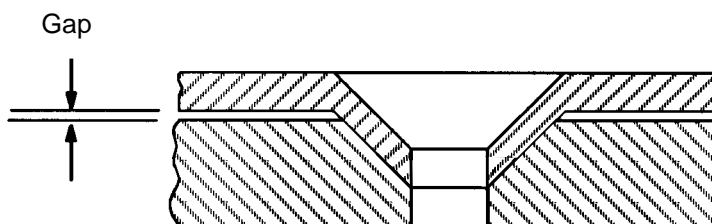

Figure 14 - Sheet Separation
- 10.1 A small gap or sheet separation of 0.001 to 0.010" shall exist between sheets where a dimpled sheet nests into another dimple or into a countersink (see Figure 14).